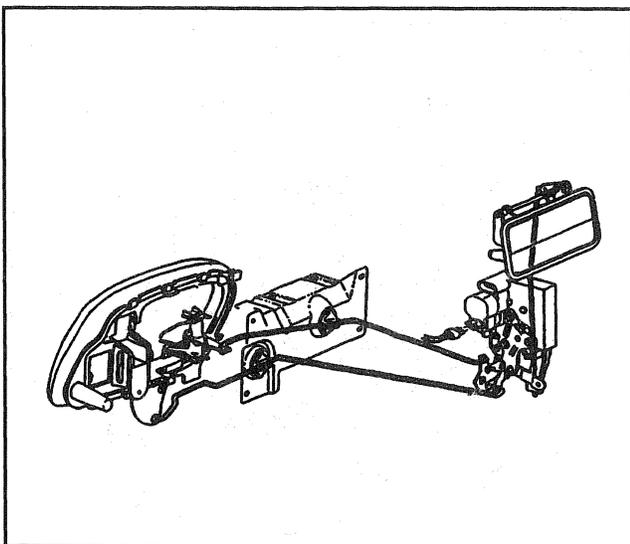

Figure 26—Inside Door Handle and Lock Control Rods
Remove or Disconnect (Figures 26 and 27)
4. Inside door handle and lock control rods (Figure 26).
Install or Connect (Figures 26 and 27)
2. Inside handle (top) rod and inside lock (bottom) rod to latch. (Figure 26)